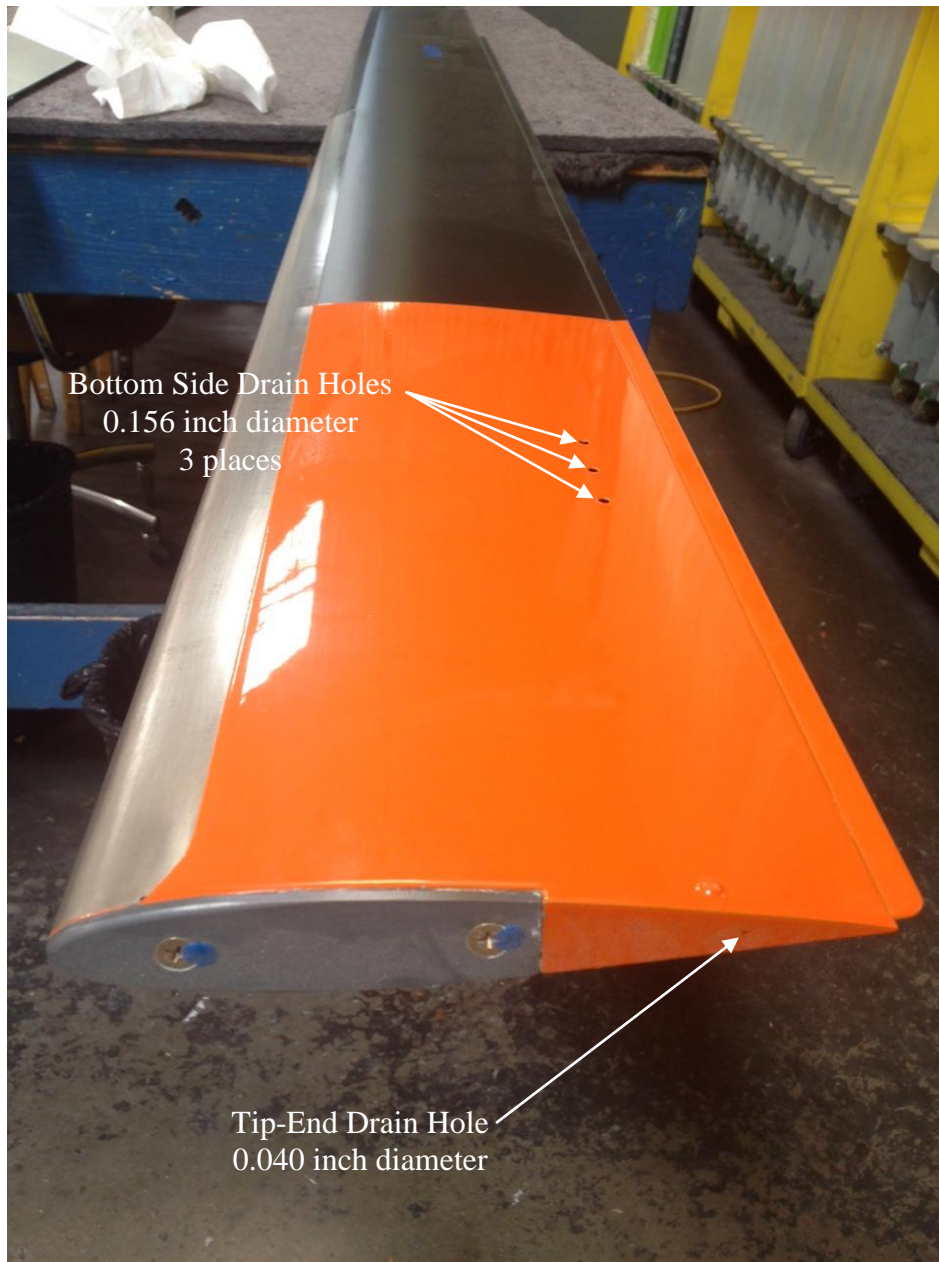

Figure 1 – Tip of Main Rotor Blade - Drain Holes (Bottom Side Shown)
- 1) Clean Tip-End area thoroughly with Solvent. Naphtha is recommended. MPK, MEK, or Acetone should not be used as they will remove the pigment from the paint. See Figure 1 above.
- 2) Visually Inspect areas to find evidence of Drain Hole Blockage. See Figure 1 above.
- 3) By hand, ensure that 5/32 Drill bit fits through each of the three (3) Bottom Side Drain Holes to a depth of 0.50 inch maximum. Do not nick far-side Blade Skin from inside with Drill Bit. See Figure 1 above.
- 5) By hand, ensure that #60 Drill bit fits through the Tip-End Drain Hole to a depth of 0.50 inch maximum. Do not nick far-side Blade Skin from inside with Drill Bit. See Figure 1 above.